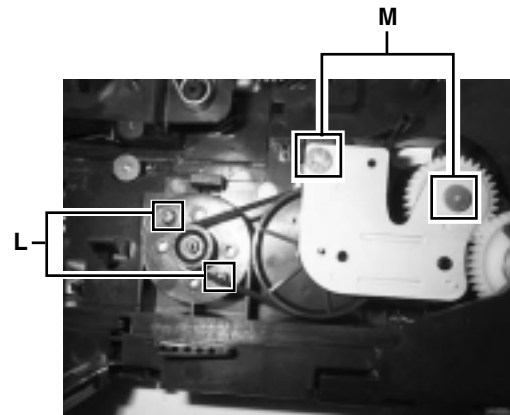

Fig.18
■ **Replacing the loading motor and rotor belt of the CD changer (See Fig .18)**